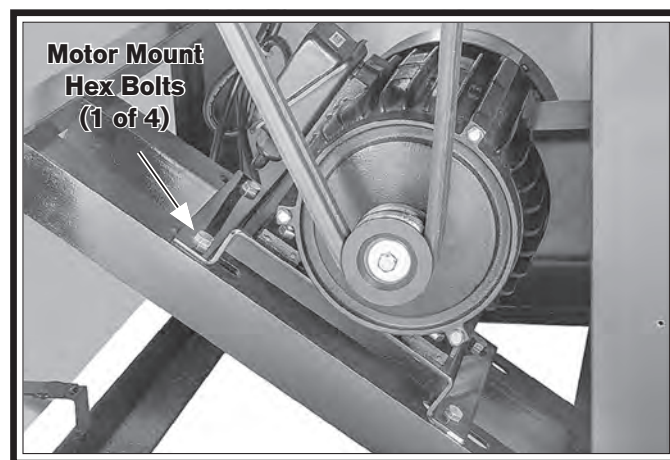

Figure 52. Locations of motor mount bolts. (shown from side for clarity).
3. Loosen (4) motor mount hex bolts as shown in Figure 52. DO NOT remove bolts!